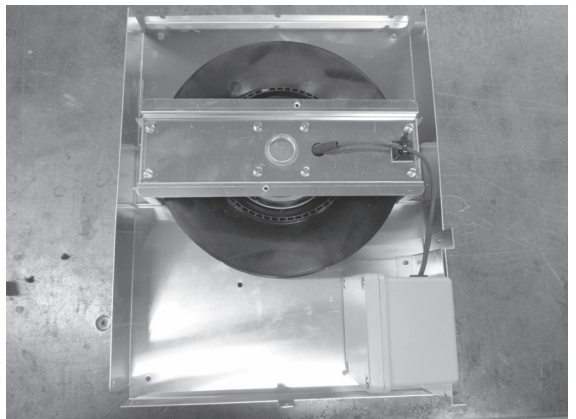

Figure 2.7
3. The HEAT-OUT-PRIMO base should look like the picture in Figure 2.7.